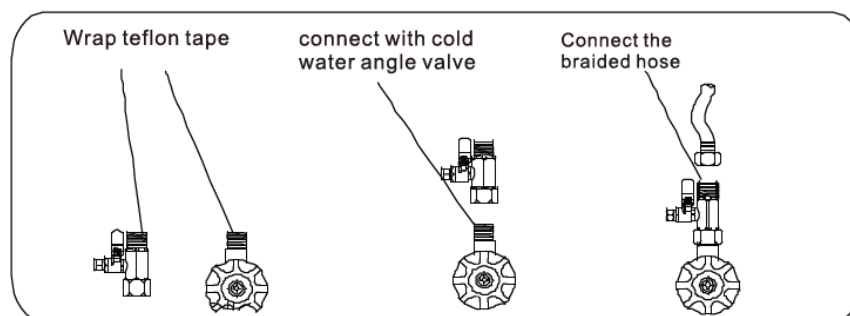

figure 1
- b. Close the cold water Angle valve, using tools unscrewing the weaving hose which connected to the Angle valve, clean the Angle valve threaded to tie ribbons clockwise, and integrated valve with 1/4" PT taper pipe is bound in thread ribbons (5 to 10) at the same time. Using a wrench to connect cold water Angle valve and integrated valve with 1/4" PT taper pipe , then connected braided hose with integrated valve with 1/4" PT taper pipe, (connection integrated valve with 1/4" PT taper pipe braided hose, Please do not forget to pack rubber mat, in case of leakage), in (figure 1).